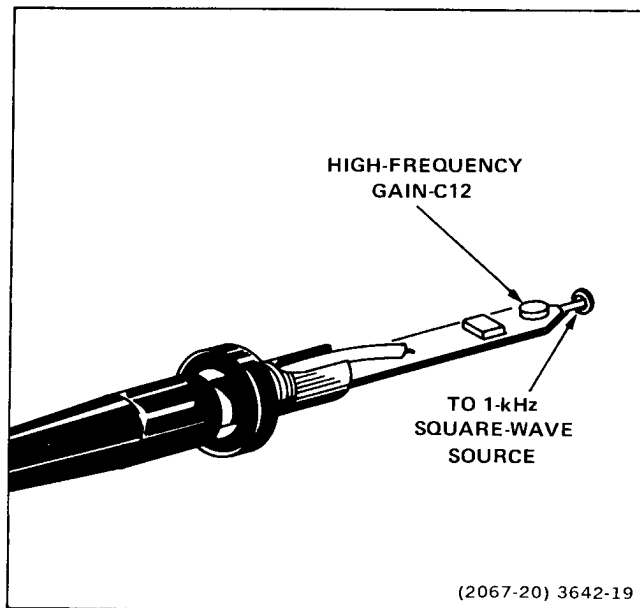

Figure 4-8. High-frequency gain adjustment.
- d. Connect the probe tip to a 1-kHz square-wave source (see Figure 4-8). Use the probe adjust or calibrator output on the oscilloscope if so equipped.
g. ADJUST—C12 (see Figure 4-8) for a slightly spiked waveform. If you adjust for a perfectly flat top, the front corner will roll off slightly when the probe barrel is reinstalled.